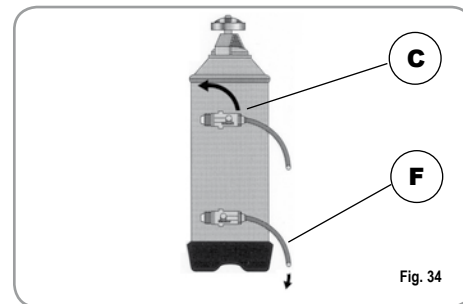

Fig. 34
2) Put the cap back on and reposition lever C moving it towards the left (Fig. 34) and allowing tube F to discharge the salty water until it has been eliminated and the water becomes fresh again (about half an hour).